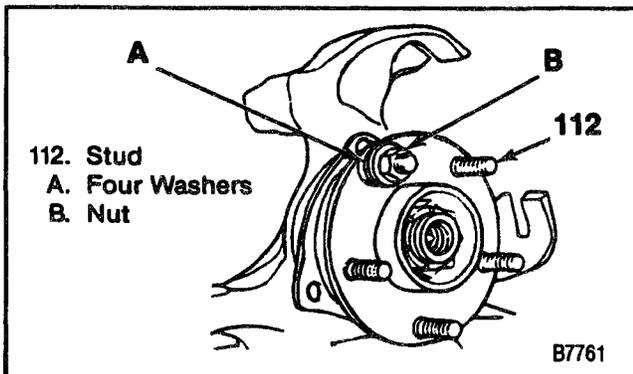

Figure 36—Installing the Wheel Hub Bolts
4. Stud (112) using J 6627-A (Figure 36).
↔ Install or Connect (Figure 36)
2. Washers (A) and nut (B) to the stud (Figure 36).
- Nut (B). Draw the stud in.